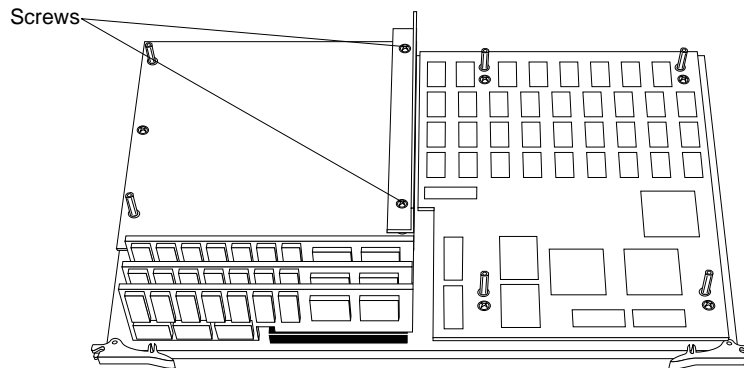

Figure 2-5 Removing the long plastic piece
2. Because the VB1.1 standoff screws are under the long plastic piece, usually gray or clear, along the edge of the VB1.1 card, you must remove this plastic piece. Unscrew the two screws that attach it to the VB1.1, as shown in Figure 2-5.